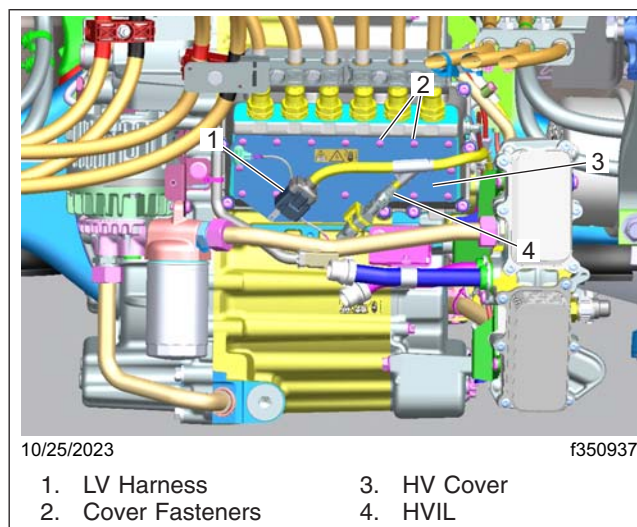

Fig. 15, Location of the HVIL
11. Disconnect the high-voltage interlock (HVIL) and the LV harness from the HV cover. See Fig. 15.
12. Remove the HV cover fasteners and remove the HV cover. See Fig. 15.
58. Install the HV cover and fasteners to the HV interface on the e-Axle. See Fig. 15 \(Page 16\).